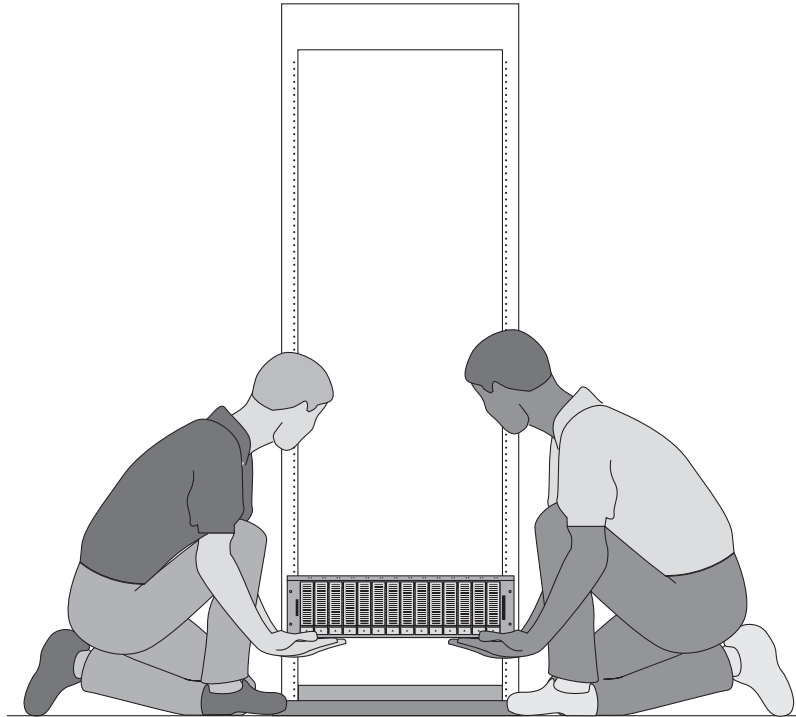

FIGURE 15 Positioning the Array Module in the Telco 4-Post Rack
2. Using two people, one at each side of the array module, carefully lift and rest the module on the bottom ledge of the left and right rails (FIGURE 15).